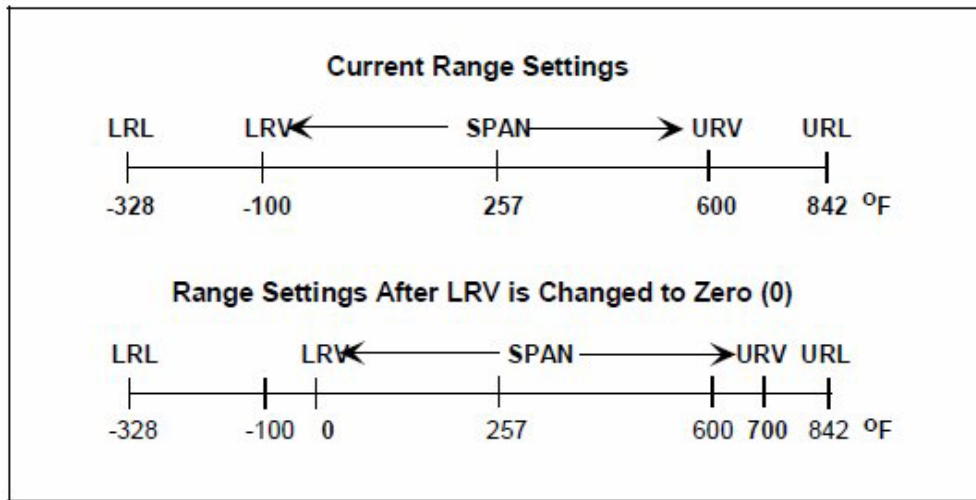

Figure 13 - Current Range Settings
- The URV changes automatically to compensate for any changes in the LRV and maintain the present span (URV – LRV). See Figure 13 for an example.